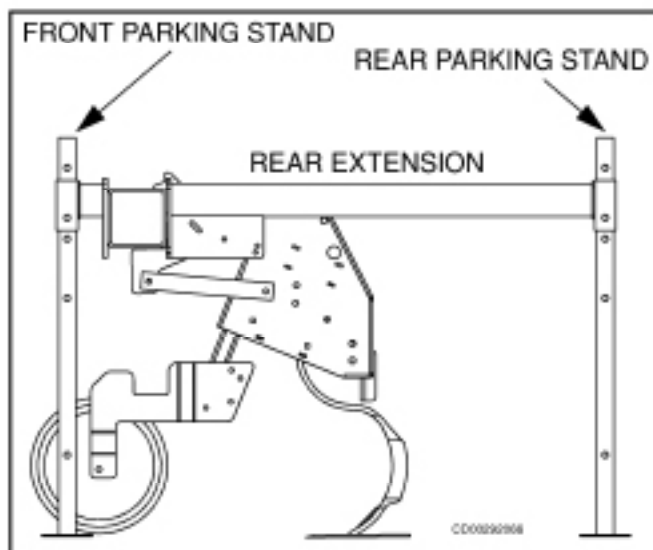

Figure 35 Front and Rear Parking Stands
2. **TRR and F toolbars:** Position parking stand assembly between row units and fasten to front side of toolbar as shown in Figure 35, using 5/8" U-bolts and flanged nuts.
2. **TRF toolbars:** Attach front parking stands to short hinge tubes of reinforced folding toolbars as shown in Figure 35, using 5/8" U-bolts and flanged nuts.
1. Install parking stands at each end of the toolbar center section as shown in Figure 35.